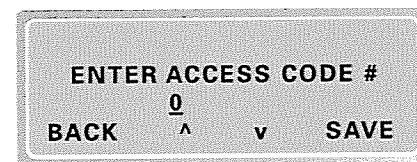

Figure 6
4. Using the MPI code printed on the battery-pull tape, enter the 6 digit number preceded by 0000, using the up and down arrows to increase and decrease each number, and the SAVE key to enter. If a mistake is made, use the BACK key to redo the entry (Fig. 6).